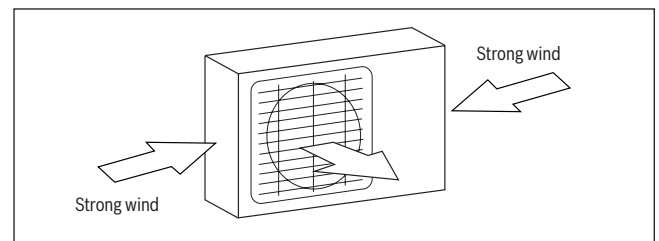

Fig. 4.
- ▶ If the location is exposed to strong winds (for example: near a seaside), the unit must be placed against the wall to shelter it from the wind. If necessary, use an awning. (See Fig. 4 & 5)